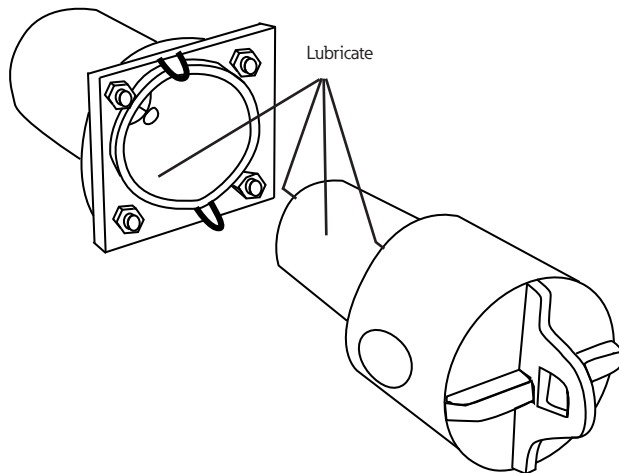

Figure 1. Lubricate plug and bushing mating interfaces.
- A thin coating of the supplied lubricant or equivalent must be evenly applied to the entire mating surfaces of the insulated bushing well plug and as much of the bushing well inside circumference that can be reached. See Figure 1.